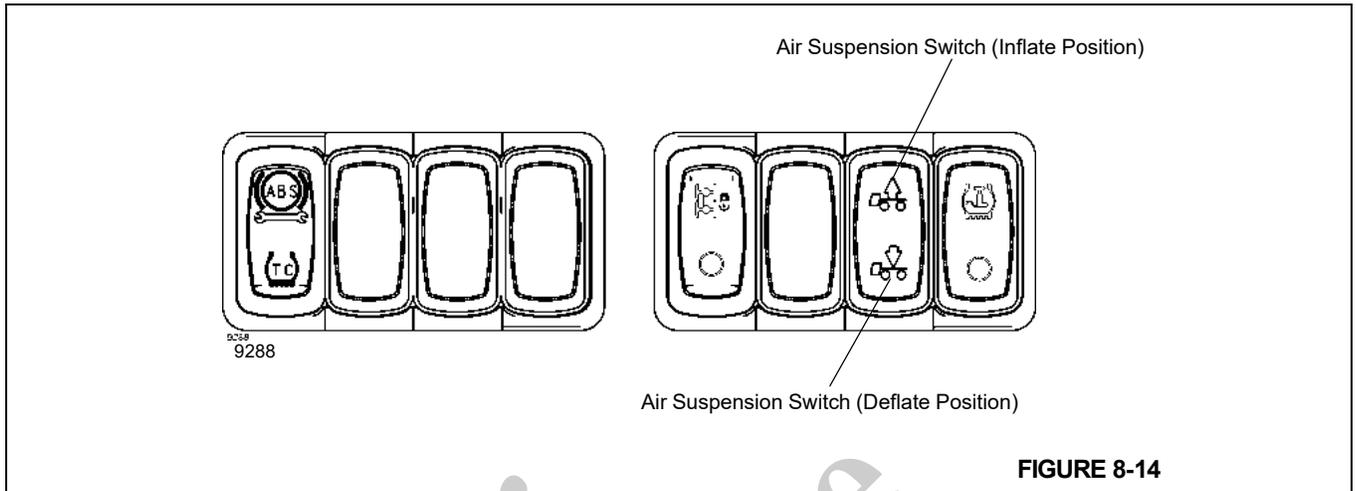

FIGURE 8-14
The air system (Figure 8-14) provides the air supply and control to operate the service brakes, parking brakes, air suspension system, inter-axle and optional cross axle differential locks, tire inflation, and the engine fan clutch solenoid valve.
2. Push the air suspension switch (Figure 8-14) in the carrier cab to the deflate position to deflate the air suspension bags. The amber suspension deflate